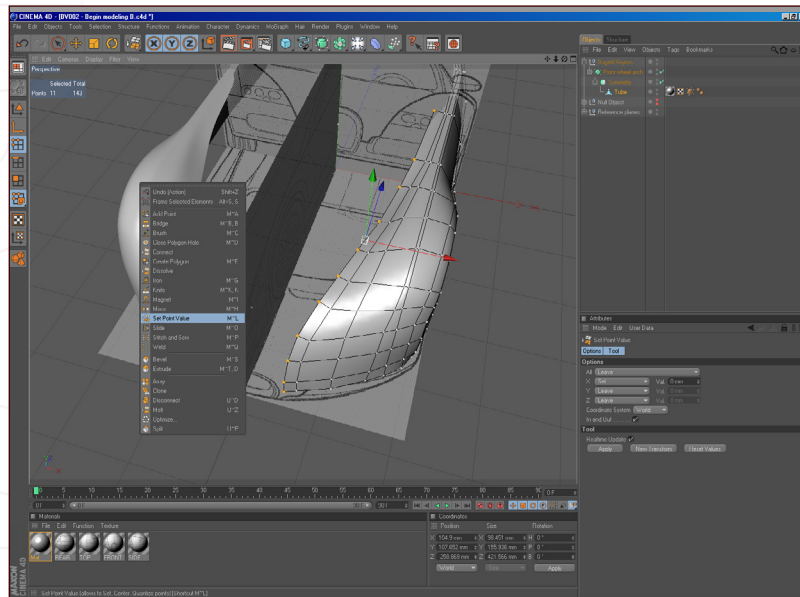

Fig 11
11. Extrude the edges and select the end points created in (**Fig11**). Right-click and press Set Point Value. Set the options, as shown in the tool attributes (**Fig11**). This will set the points at 0 (zero) in the X axis, and the symmetry object will weld both halves together, giving a smooth panel.